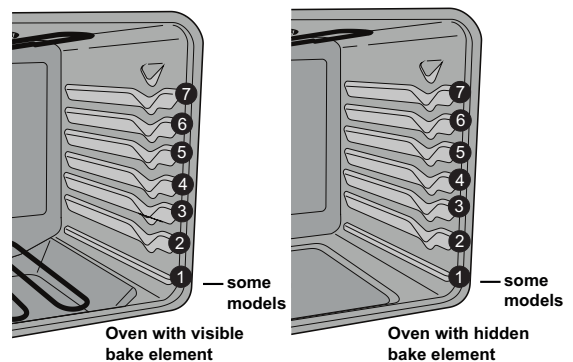

Figure 15: Rack positions for raised bake and hidden bake ovens
- For best results when baking cakes using two oven racks, place racks in positions 3 and 5 (See Figure 15).